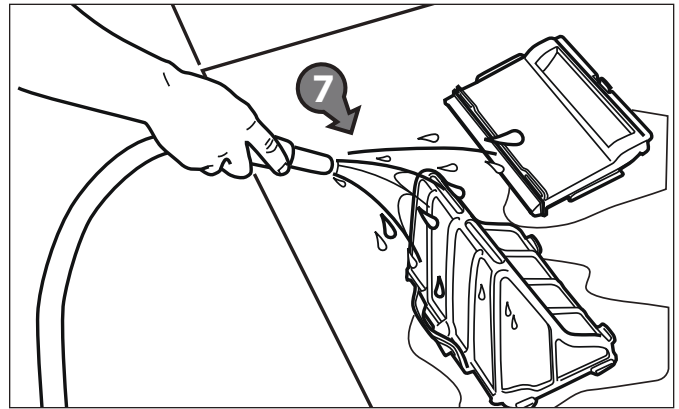

Figure 27. Wash Filter Canister
9. Empty all debris from the filter canister, then rinse the canister, the filter support, and the cleaner under water or using a hose. Refer to Figure 27.